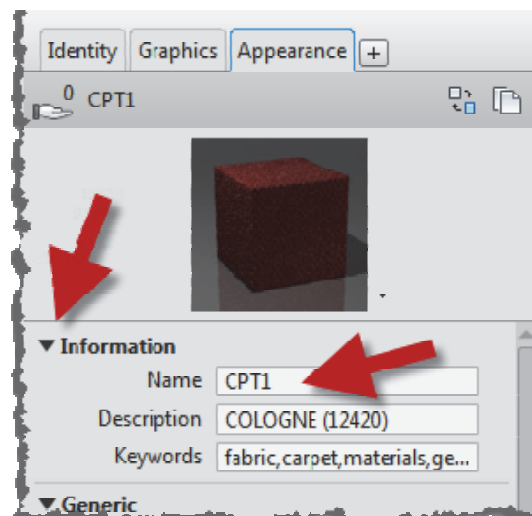

FIGURE 4-3.9B Editing an appearance asset
19. Expand the **Information** area and change the *Name* to **CPT1** (see Figure. 4-3.9b).